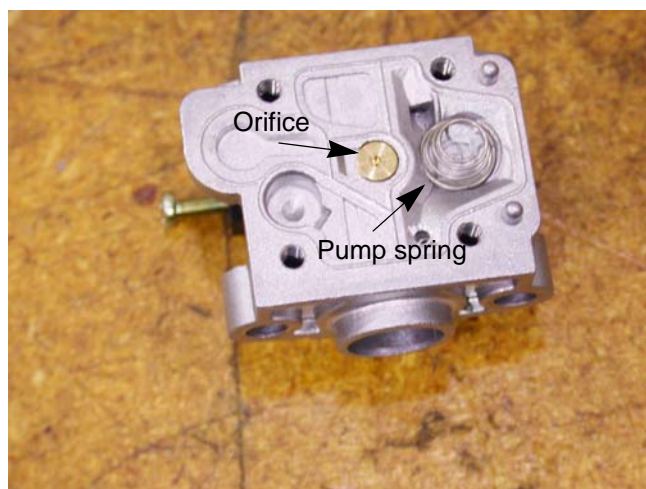

Figure 5.23
9. The orifice can also be seen from the pump side of the throttle housing. See Figure 5.23.